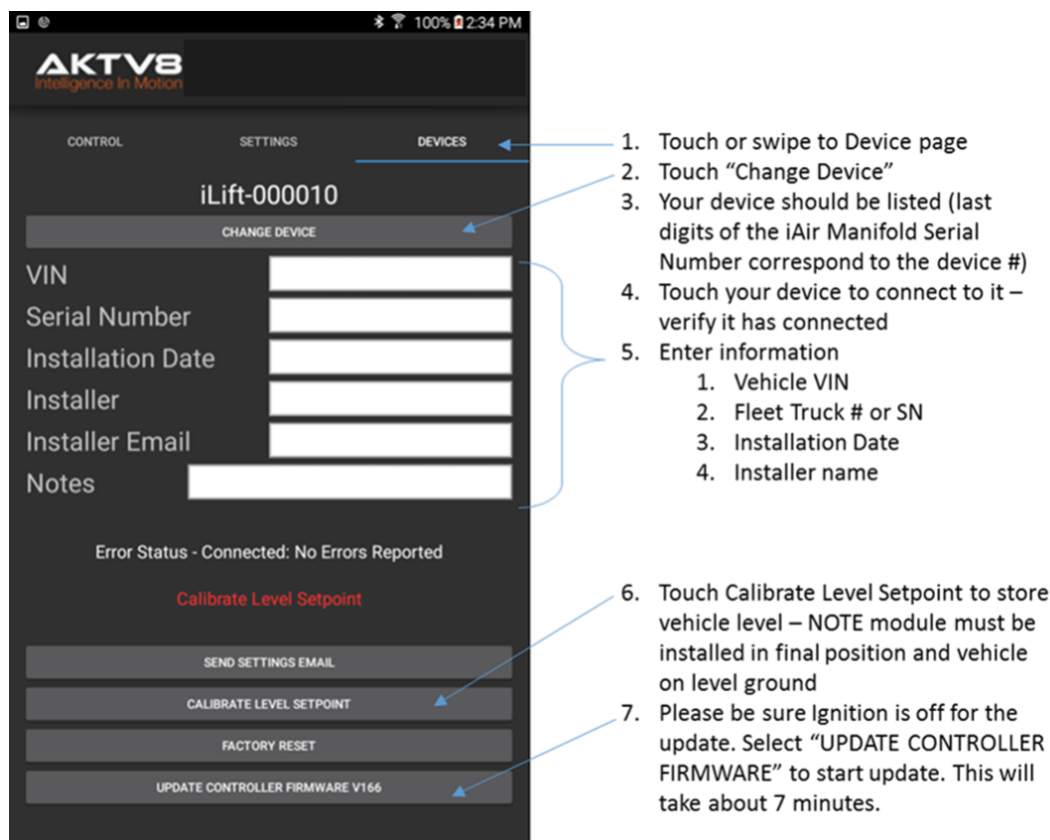
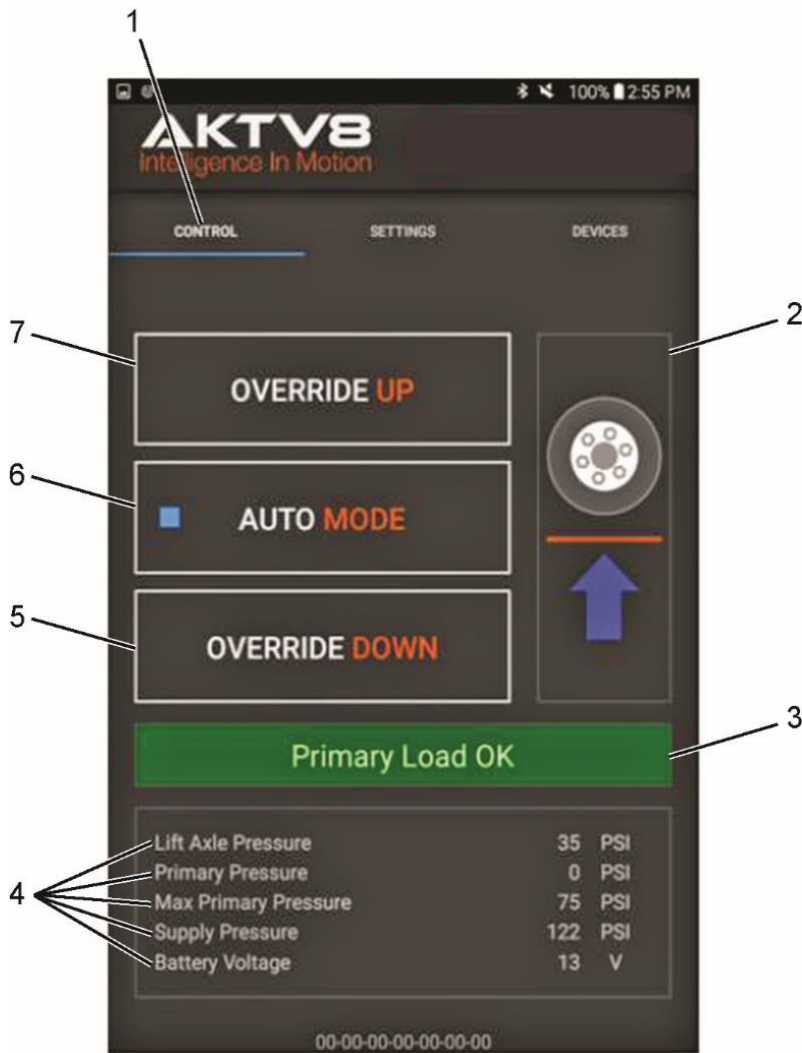

Figure 14
Figure 17
3. Touch or swipe to **DEVICES** tab (Figure 14, Item 1).
4. Touch **CHANGE DEVICE** (Figure 14, Item 2).
NOTE: To confirm the module is connected to the App, swipe to CONTROL (Figure 14, Item 1) and confirm screen looks like (Figure 17). Once confirmed go back to DEVICES (Figure 14, Item 1).
8. Update the module to the latest software revision. Figure 14, Item 7), please be sure the OEM switch is in the Off (Up) position.
9. Enter the following information in the appropriate fields (Figure 14, Item):
10. Calibrate level setpoint (Figure 14, Item 6) to store vehicle level.
4. Touch to select the appropriate controls (Figure 17, Item 4):
3. Touch or swipe to **CONTROL** tab (Figure 17, Item 1).
NOTE: The status of the lift axle is displayed using the image on the right side of the CONTROL screen (Figure 17, Item 2).
4. Touch to **VERRIDE UP** (Figure 17, Item 7) to raise axle.
5. Touch **AUTO MODE** (Figure 17, Item 6) to enable automatic control functions.
6. Touch **VERRIDE DOWN** (Figure 17, Item 5) to deploy axle.
12. The zone display (Figure 17, Item 3) displays the status of the vehicle’s axle status as follows:
13. The following data (Figure 17, Item 4) can be monitored from the CONTROL screen.